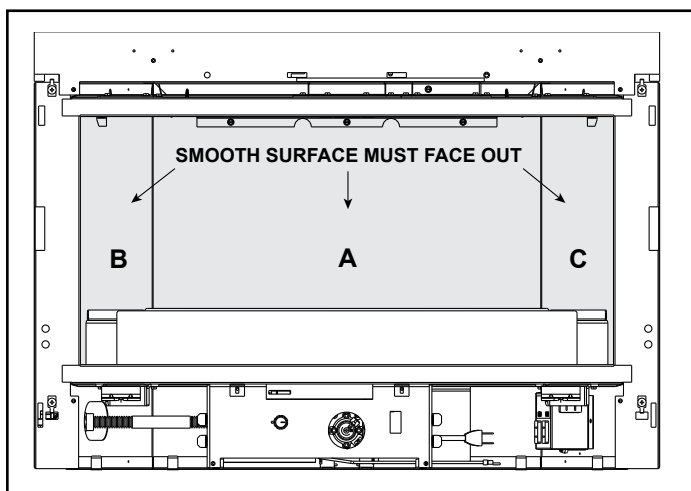

Figure 1 Placement of Glass Panels
1. Install back glass panel (see Figure 1-A). Set back panel tight to the back of the fire box (**be careful to hold the panel from falling until side panels are in place**).
2. Install left glass panel (see Figure 1-B). Set left panel tight to left side of the firebox. Top of panel should slide in behind the top heat shield in the fire box. Push left panel to the back of the fire box until it makes contact with the back panel.
3. Install right glass panel (see Figure 1-C). Set right panel tight to right side of the firebox. Top of panel should slide in behind the top heat shield in the fire box. Push right panel to the back of the fire box until it makes contact with the back panel.